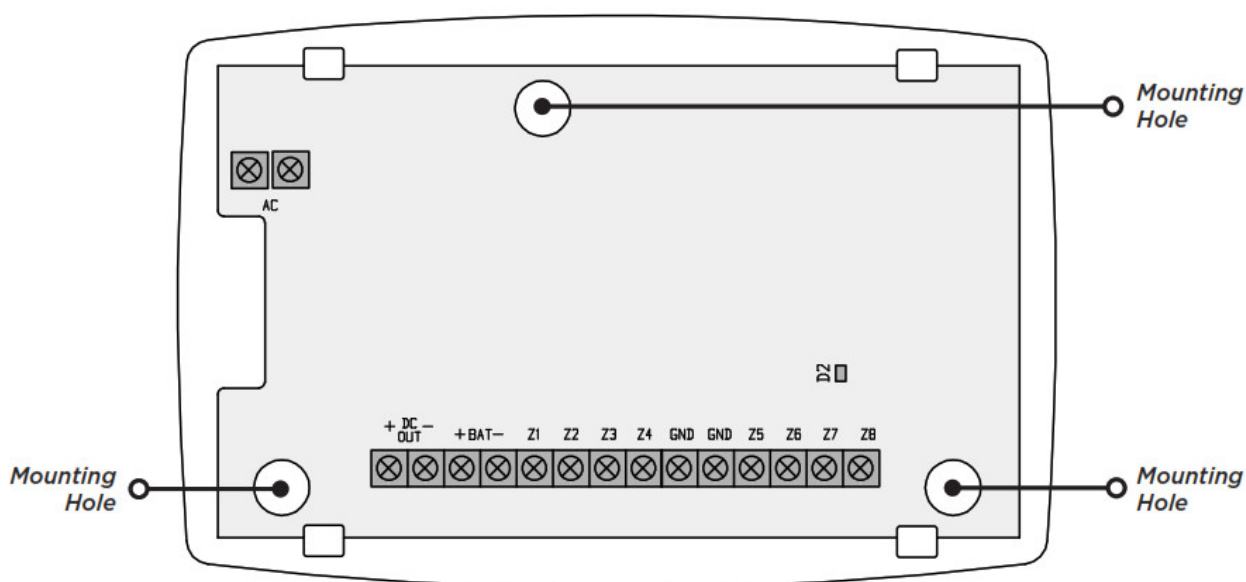

Figure 2: 1158 Mounting Hole Locations
Place the 1158 close to the existing non-DMP panel. With the housing cover removed, use the supplied screws to secure the 1158 to a wall or other flat surface. Use the built-in holes on the PCB to screw the housing base onto a surface without removing the PCB. See Figure 2.
2. Use the existing wire to connect a contact to a zone terminal and a ground (GND) terminal. See Figure 2.